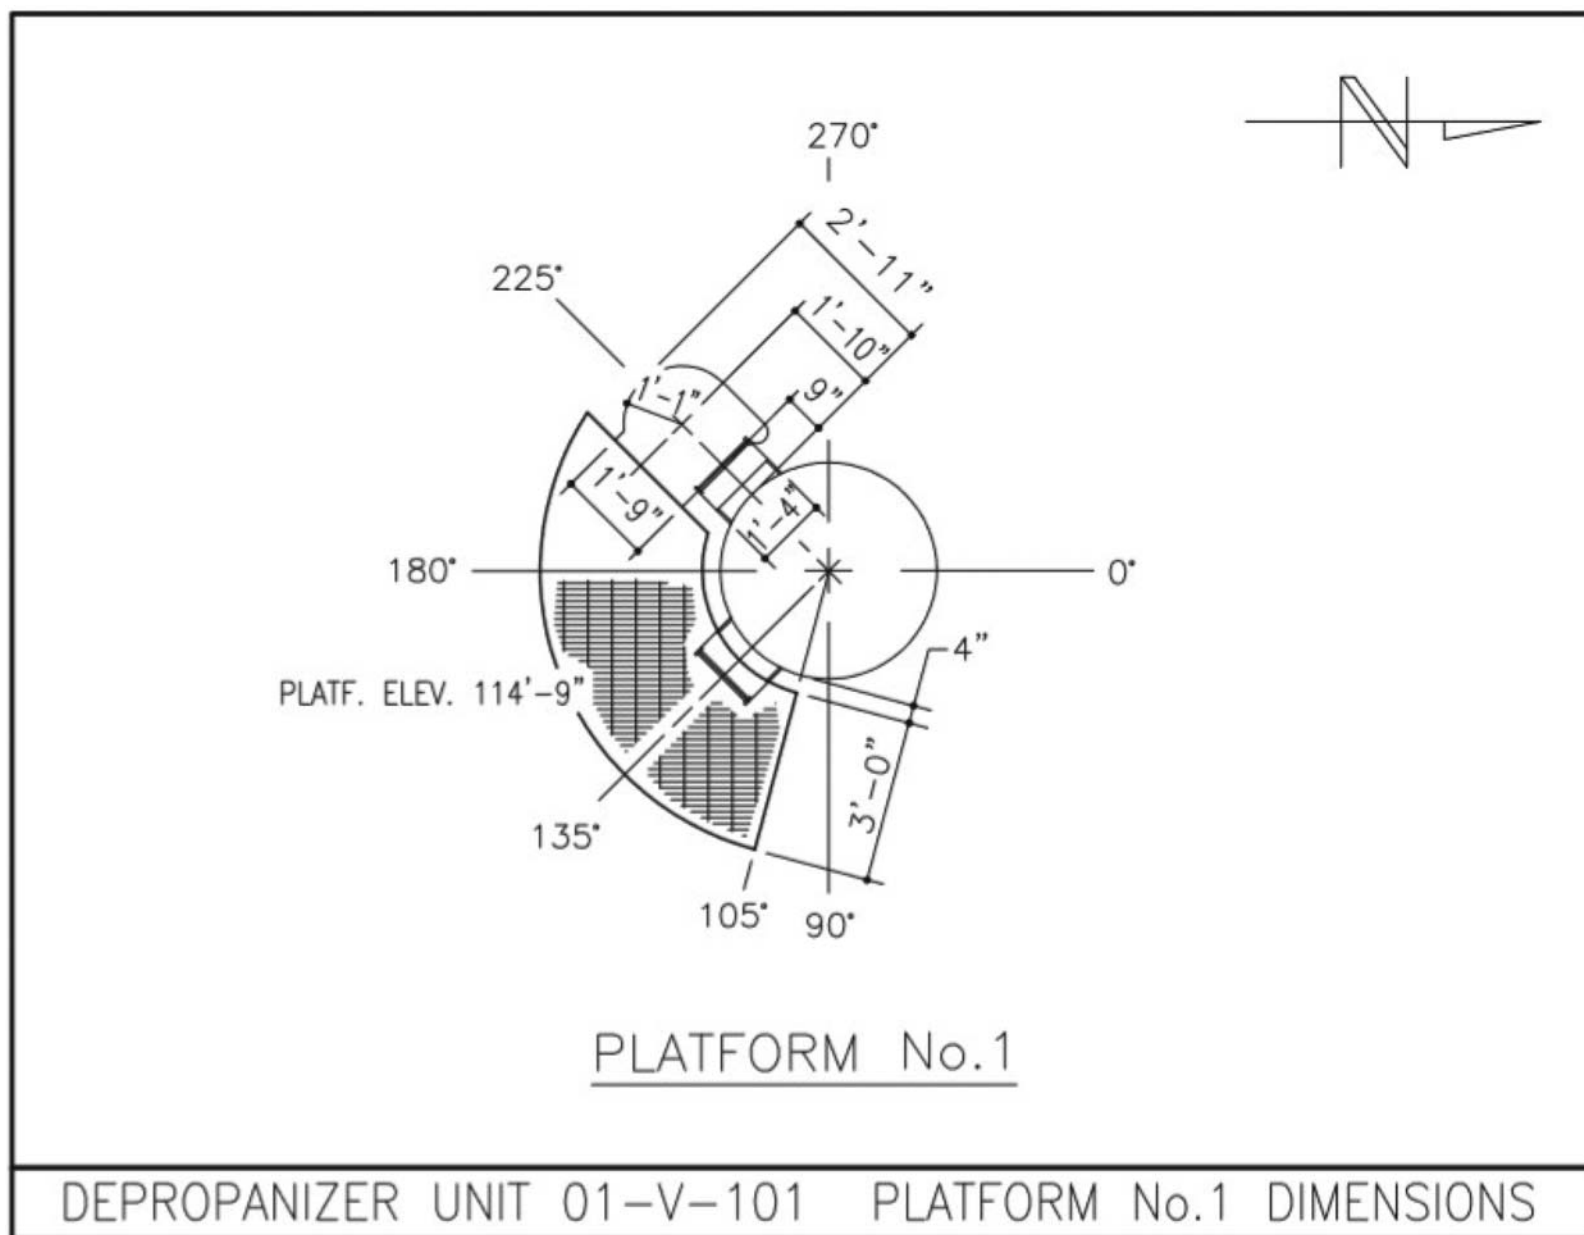

FIGURE 10.44 Platform No. 1.
- The size and location dimensions for the platforms, ladders, and cages are established from dimensions provided on the vendor drawings for 01-V-101. Figures 10.44 and 10.45 provide an enlarged view of 01-V-101 describing Platforms 1 and 2, respectively. Use dimensions provided in these figures to place the platforms, ladders, and cages on 01-V-101 in your Piping Arrangement drawing.